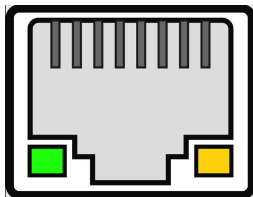

Fig. 10
2. Connect the cable to the ethernet ports on both devices(see Fig. 10).